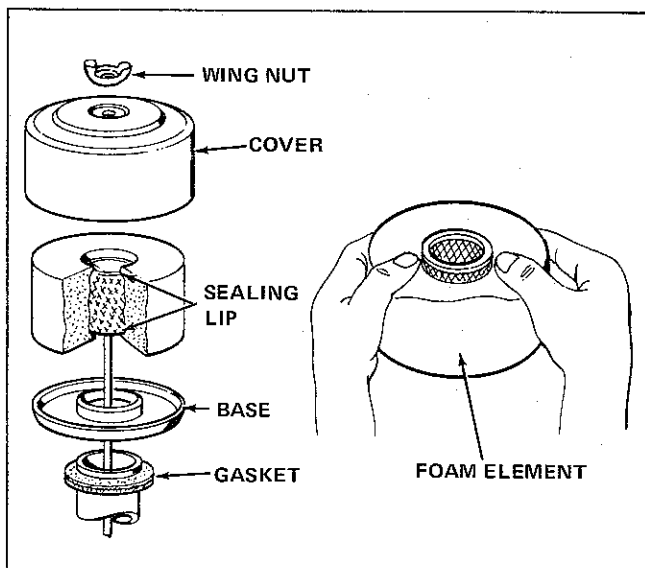

Figure 11. Air Cleaner Disassembly
- c. Take the air cleaner apart as shown in Figure 11.